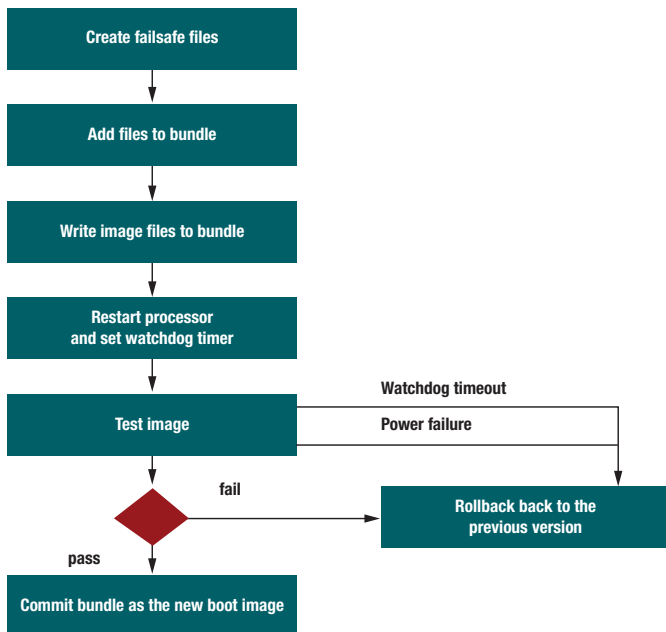

Figure 3. The Amazon FreeRTOS OTA update implementation leverages the bundle protection mechanism of the SimpleLink file system to test-run the new OTA image.
- **Reversion if the OTA image fails to boot successfully.** Once the OTA agent verifies the download of a valid firmware update, it uses SimpleLink file system APIs to securely store the image and signature information, activate the image for testing, and to set the update image as the default if the tests are passed. The secure bootloader for SimpleLink Wi-Fi devices allows the booting of only correctly signed images. The OTA update image must contain the OTA update agent, as a number of AWS IoT functions are tested when the new image boots up. This ensures that the IoT device can securely connect to the IoT service and accept future OTA updates. A hook at the end of the AWS connectivity test enables a developer to add their own device-specific tests. The OTA agent uses the SimpleLink Wi-Fi bundle protection feature (see Figure 3) to prevent a failed update that results in a bricked device. Bundle protection enables the "test booting" of the image and sets a flag directing the bootloader to boot the OTA image prior to resetting the MCU. The bootloader starts by resetting the flag to use the previous working image for the next boot and sets a watchdog timer to trigger after an appropriate period. If the boot of the new image fails the self-test, hangs or experiences a power failure, the bootloader will simply revert to the previous image on the next boot. At that point, the OTA agent can restart the update process again. If the boot passes the self-test, the update image will be set as the default going forward.